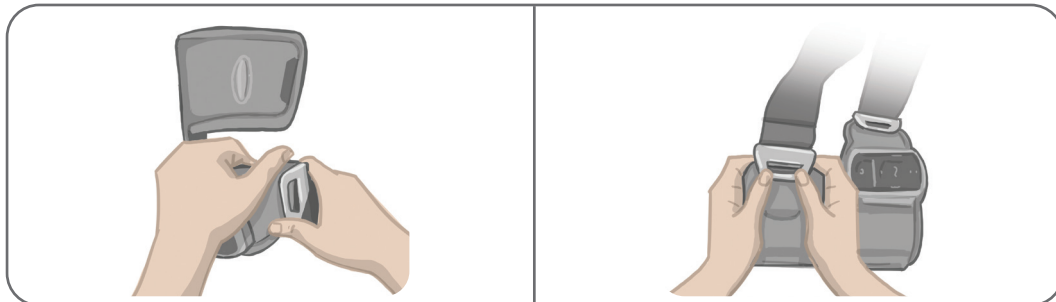

Figure 8-14: Reattaching the Thigh Straps
2. Push the strap buckle with your thumbs toward the strap (direction away from the Thigh Cuff). See Figure 8-14.